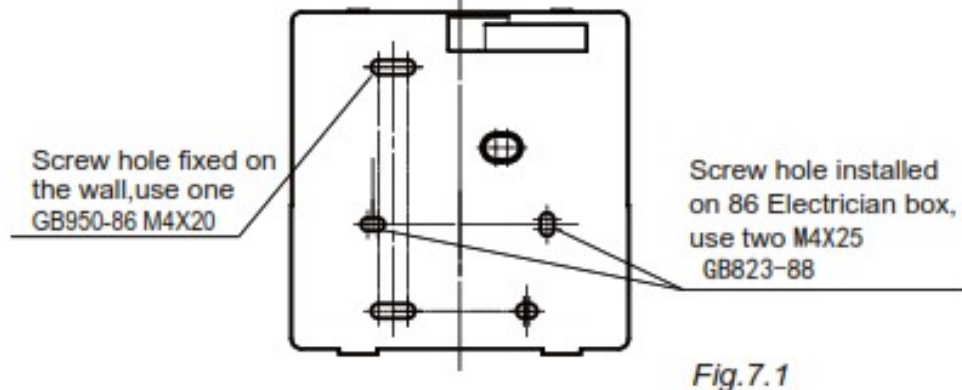

Fig.7.1
3. Use two M4X25 GB823-88screws to install the back cover on the 86 electrician box, and use one GB950-86 M4X20 screws for fixing on the wall. (Fig.7.1) Adjust the length of two plastic screw bars in the accessory to be standard length from the electrical box screw bar to the wall. Make sure when install the